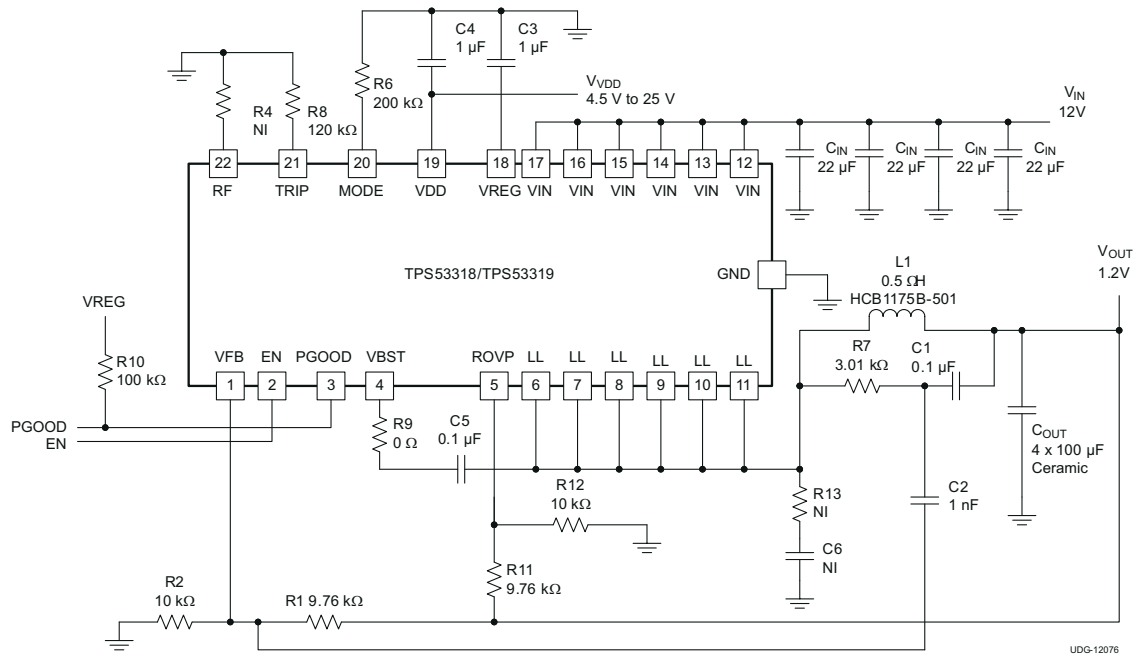

Figure 9-12. Typical Application Circuit, Redundant OVP Enabled
The redundant overvoltage level is programmed according to the output voltage setting, it is controlled by resistors R11 and R12 as shown in Figure 9-12. Connect resistor R11 between the ROVP pin and the output, and connect resistor R12 between the ROVP pin and GND. This design recommends that the value of resistor R11 match the value of resistor R1 (or slightly higher), and that the value of resistor R2 match the value of resistor R12.
- Connect the ripple injection V_{OUT} signal (V_{OUT} side of the C1 capacitor in Figure 9-12) from the terminal of ceramic output capacitor. The AC coupling capacitor (C2 in Figure 9-12) should be placed near the device, and R7 and C1 can be placed near the power stage.